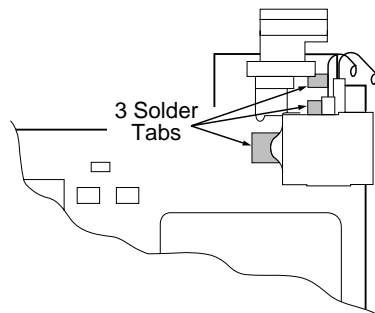

Figure 40-16.
- (1) On VHF and UHF radios, unsolder the two tabs of the RF switch bracket that secure the RF switch to the RF board. On 800MHz and 900MHz radios, use a #2 slotted screwdriver to straighten the two tabs of the RF switch bracket that wrap around the RF board. Use your forefinger to hold the RF switch bracket to the RF board while straightening the tabs to avoid lifting the solder tabs on the opposite end of the RF switch bracket.
- (2) Refer to Figure 40-16 and use a small heat-focus head to distribute heat over the area occupied by the three solder tabs until the solder softens.